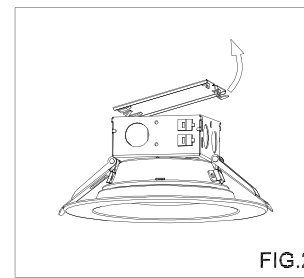

FIG.2
- Open the Junction Box Cover.(FIG2)